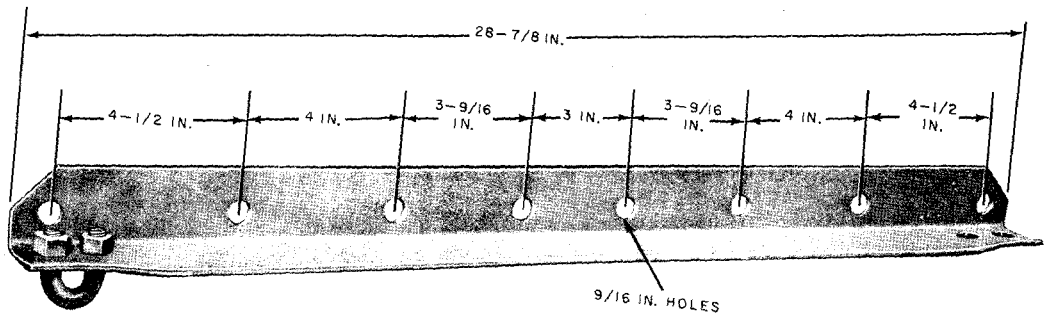

Fig. 12—C Wall Bracket
3.07 C Wall Bracket (Fig. 12): Used in lieu of the B Corner Wall Strap where the change in direction of the strand, either horizontally or vertically, will be greater than 10 degrees but not more than 30 degrees. Determine these angles by referring to Fig. 11.